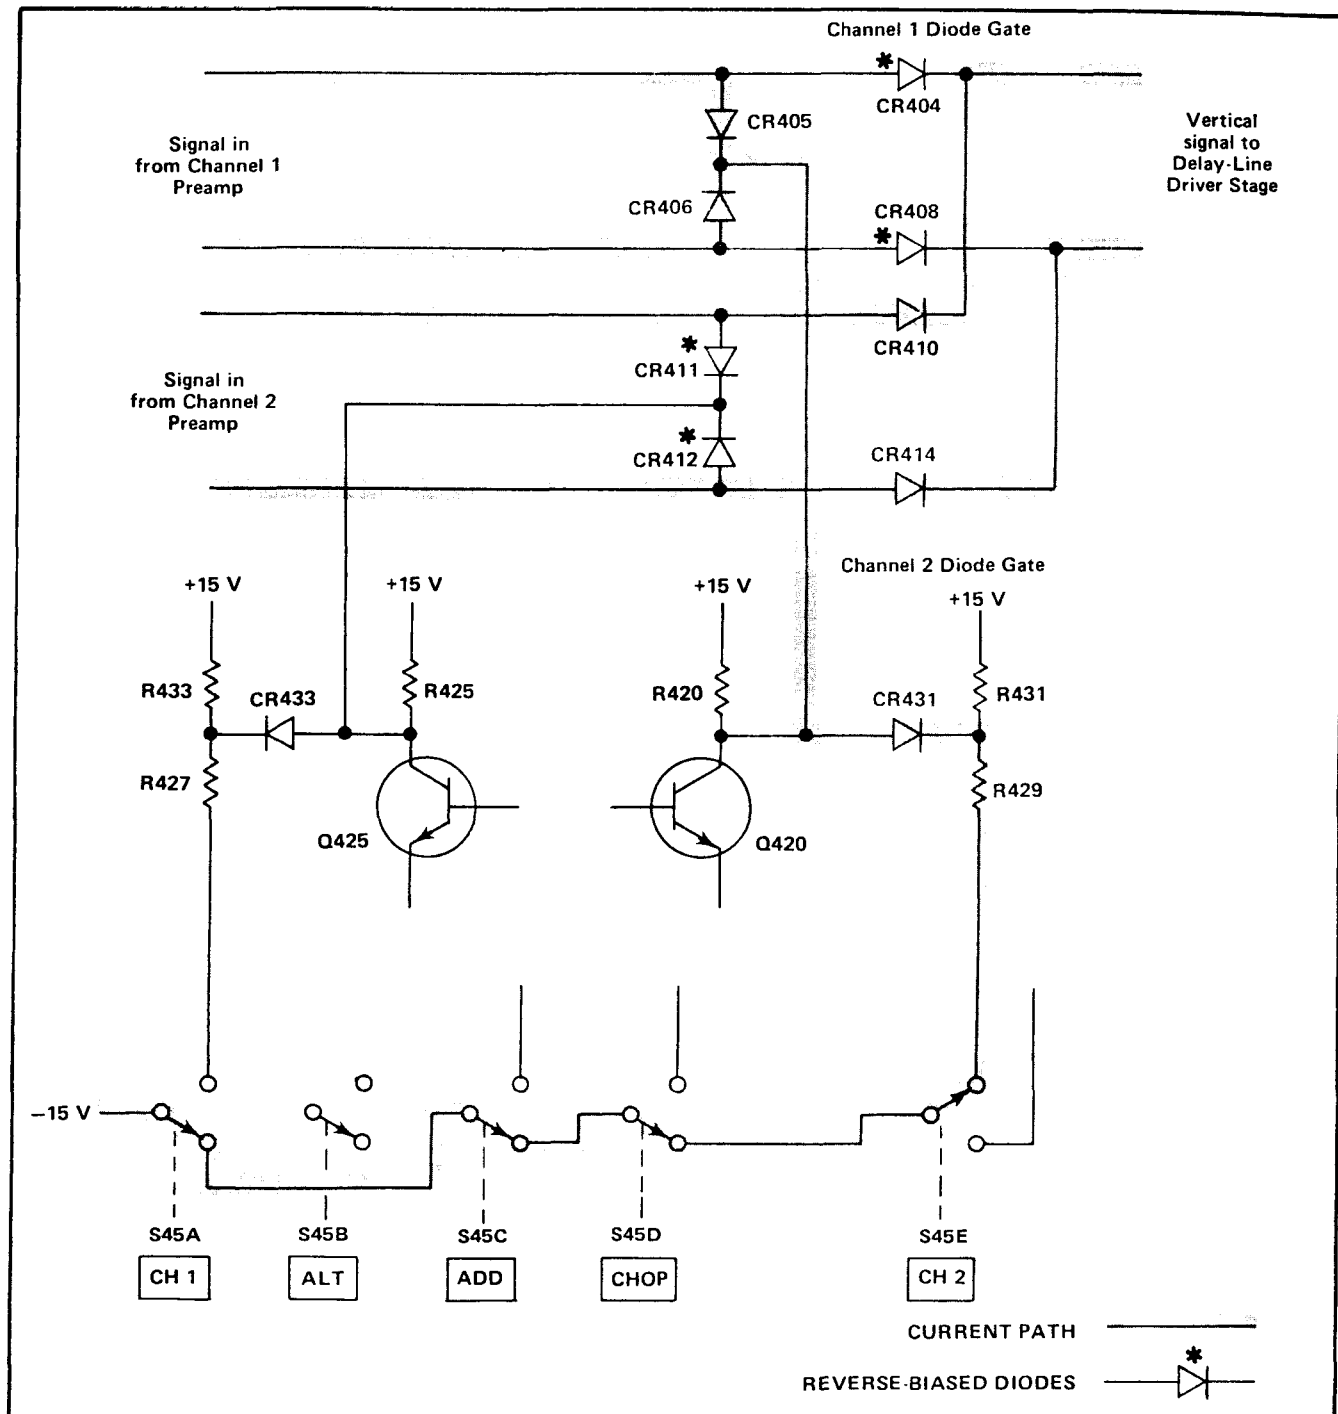

Fig. 3-6. Effect of Diode Gates on signal path (simplified path). Conditions shown for CH 2 mode of operation.
**CH 2.** In the CH 2 mode of operation, the above conditions are reversed. CR405-CR406 are connected to -15 volts through S45E, R429, and CR431, and CR411-CR412 are connected to +15 volts through R425 (see simplified diagram in Fig. 3-6). The Channel 1 Diode Gate blocks the signal, and the Channel 2 Diode Gate allows it to pass.